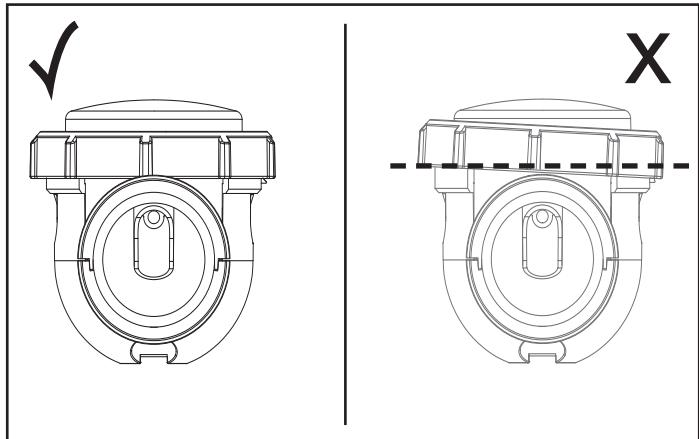

Figure 30. Locking Ring Level
**NOTE** Ensure the locking ring is level when engaging the threading housing (see Figure 30).